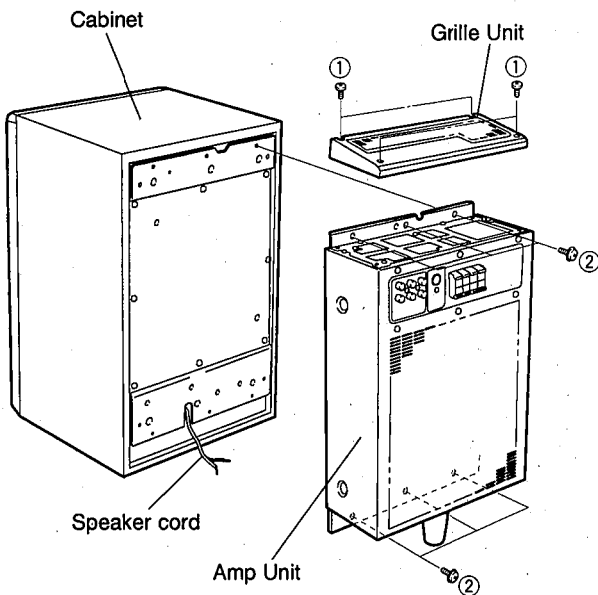

Fig. 1
- a. Remove the speaker cord in Fig. 1.
- b. Remove 4 screws (①) and then remove the Grille Unit in Fig. 1.
- c. Remove 6 screws (②) and then remove the Amp Unit in Fig. 1.